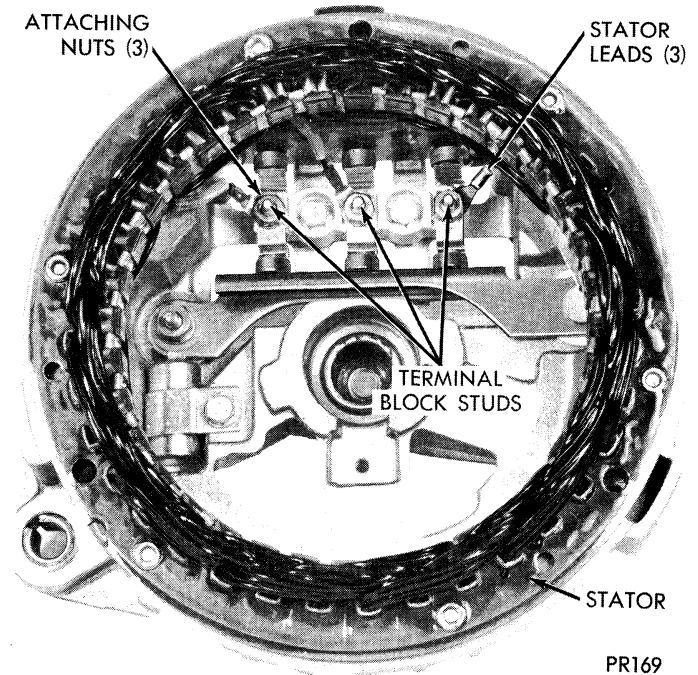

Fig. 16—Rectifier End Shield and Stator Assembly
(1) Remove nuts from studs on terminal block securing stator windings, positive, and negative rectifier straps to block, (Fig. 16).
(2) Lift off stator winding terminals and carefully pry stator assembly from end shield.
(3) Test rectifiers with a 12 volt battery and a test lamp equipped with a number 67 bulb (4 candle power) by connecting one side of test lamp to positive battery post; other side of test lamp to a test probe with other test probe connected to the negative battery post.